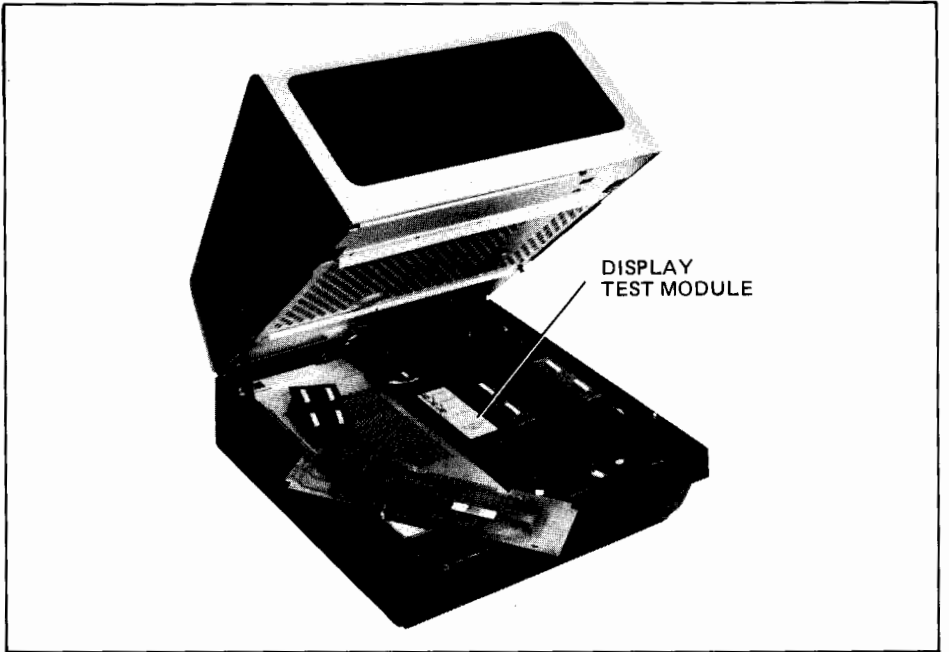

Figure 5-3. Installation of Display Test Module
5. Install Display Test Module on top connectors of Display Timing and Display Control PCAs so that test module cable is toward front of mainframe (figure 5-3).
5. Install display test module on top connectors of Display Timing and Display Control PCAs so that test module cable is toward front of mainframe (figure 5-3).